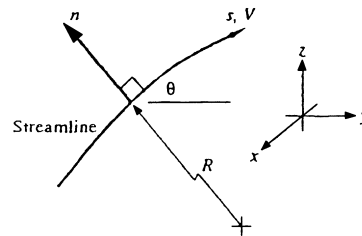

Fig. P4.26
**4.26** Curvilinear, or streamline, coordinates are defined in Fig. P4.26, where  $n$  is normal to the streamline in the plane of the radius of curvature  $R$ . Show that Euler's frictionless momentum equation (4.36) in streamline coordinates becomes